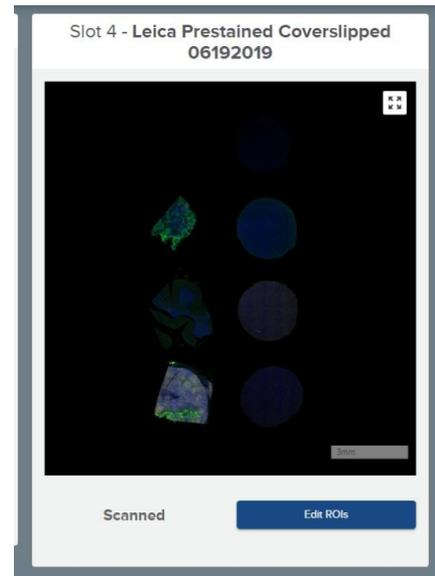

Figure 28: Control Center single slot view of Edit ROIs button activated after scanning
1. During the DSP run, use the **Edit ROIs** button (Figure 28), which will become active underneath a slide's image after the 20x scan has completed.